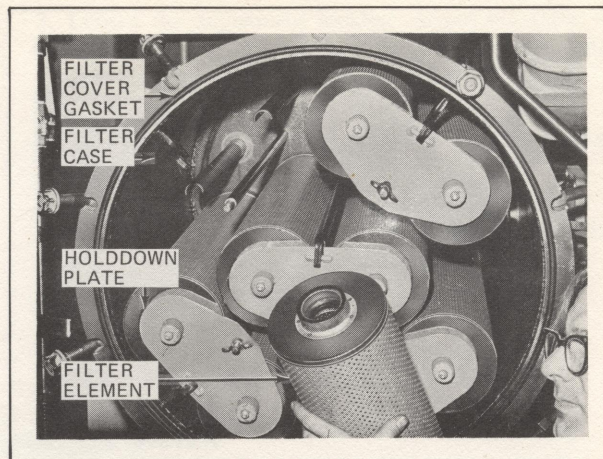

FIG. IX-55. RENEWING FILTER ELEMENTS.
6. Install new filter elements, Fig. IX-55.